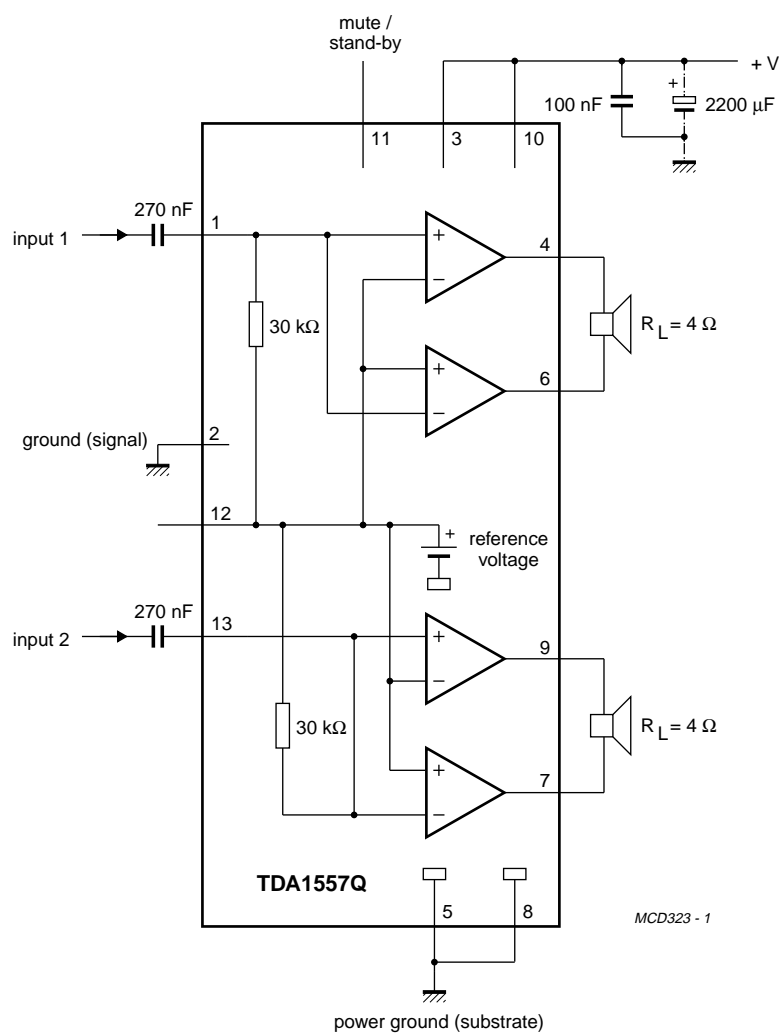

Fig.4 Stereo BTL application.
1. All characteristics are measured using the circuit shown in Fig.4